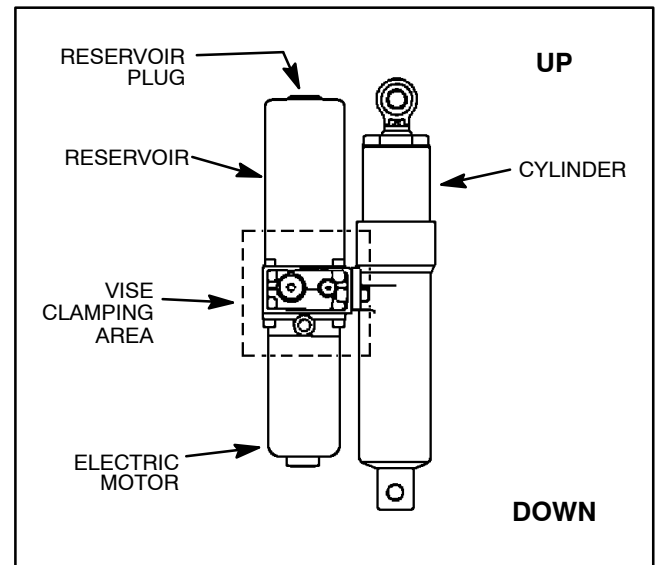

Figure 66
3. Place the actuator in a vise making sure that actuator is clamped in the area identified in Figure 66. Use just enough clamping force to hold the housing securely. Make sure that the reservoir plug is orientated up.